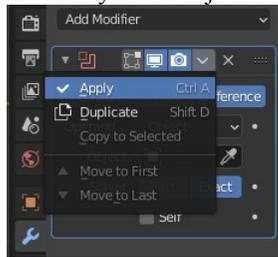

Figure 2-3 Apply is hidden in a drop-down menu.
protrudes inside the cup. To fix it, drag the boolean difference modifier down below the union modifier using the area to the right of the cross (it contains eight white dots; see Figure 2-3). An option in the drop-down menu also allows you to change the order of modifiers.
9. At this point, moving any of the objects would break the assembly. You can fix this by “applying” the modifiers, which effectively bakes them as a permanent change to the mesh (in Chapter 3, you’ll learn a different method to solve this problem). Select the torus, and in the modifier, choose **Apply** from the little drop-down between the camera and cross on the top line (Figure 2-3). Select the larger cone and apply first the union, then the difference modifier. Delete the smaller cone, the torus, and the cylinder objects.